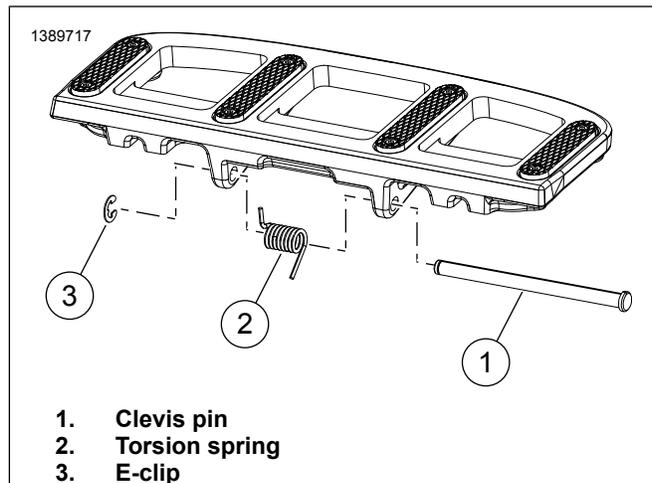

Figure 2. Rider Footboard Kit
1. Figure 2 Remove E-clip (3), clevis pin (1) and return torsion spring (2).
- a. **Kits 50501679, 50501648, 50502256, 50502257:** Figure 2 Insert short end of Original Equipment (OE) torsion spring (2) into forward most hole in footboard.